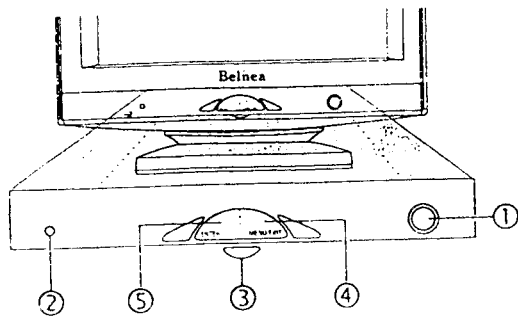

Fig 1
- 1) Press the **MENU/EXIT** button (4 in figure 1) to display the OSD menu on the screen.
- 2) Select the desired function icon using the OSD dial (3 in figure 1, see the following section "OSD Menu Icons").
- 3) Press the **ENTER** button (5 in figure 1) to activate the function.